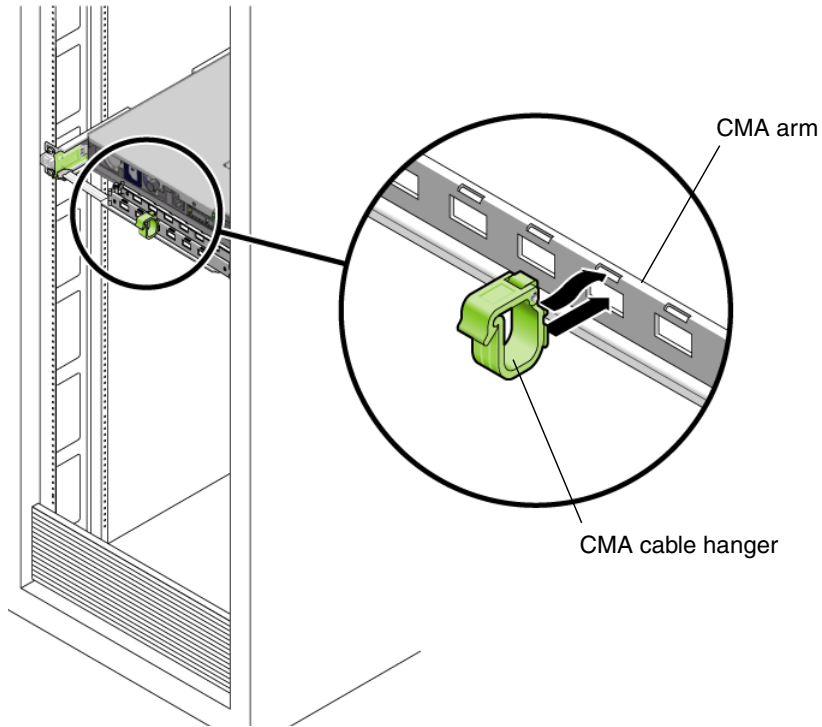

FIGURE C-12 Installing CMA Cable Hangers
8. **Position the cable hangers in the appropriate mounting holes in the CMA and snap them into place. (See FIGURE C-12.)**